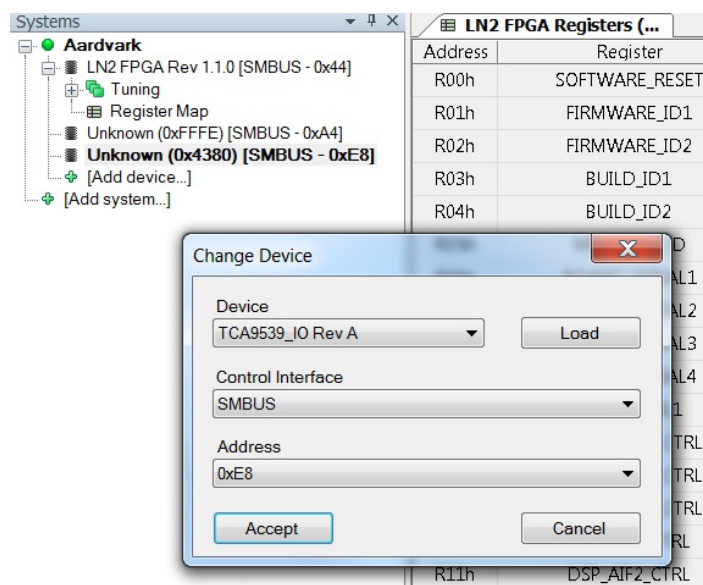

Figure 3-2. Linking a Device with Its Register Map
3. To link a device with its corresponding register map, double click on the device address and select the name of the device from the drop-down menu, as shown in Fig. 3-2.